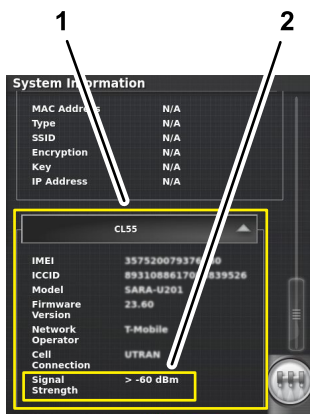

Figure 204
- In the system information screen, use the scroll bar to navigate to the CL55 icon (Figure 204).
3. Press the CL55 icon to display the signal strength information.(Figure 204), and verify that the modem signal strength is between -60 dBm and -99 dBm.